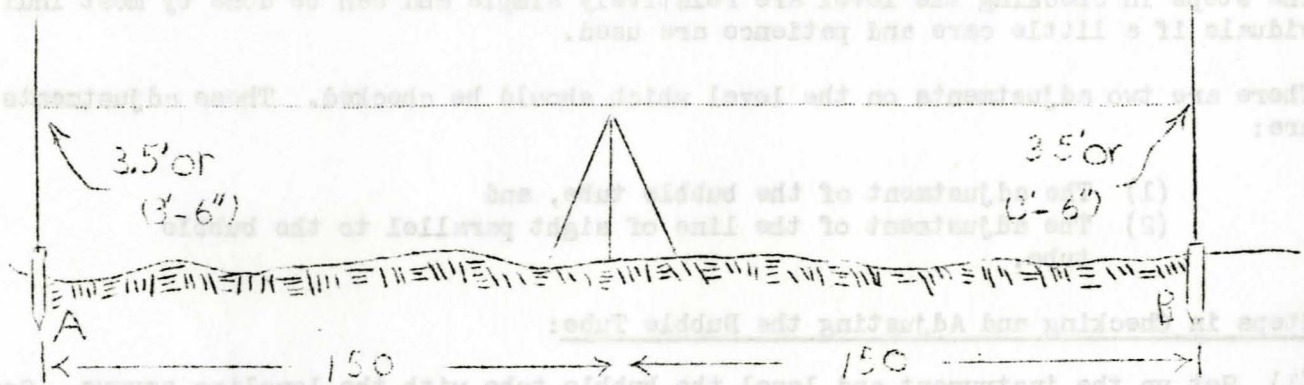

FIG No. 1
1. Select a fairly level piece of ground and set up the instrument as shown in Figure No. 1. See that the bubble is carefully leveled.
2. Measure at least 100 or, preferably 150 feet from the instrument and drive Stake "A" as shown in Figure No. 1. Take the rod reading while the rodman holds the rod on Stake "A".